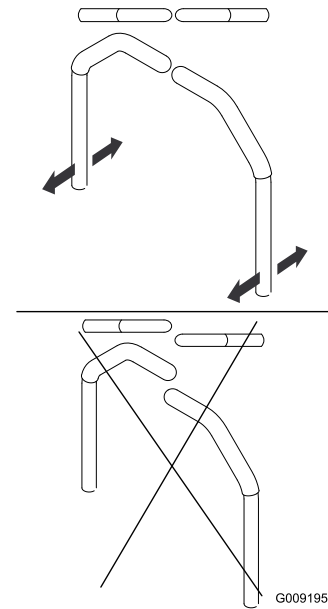

Figure 81
4. Align the levers in the front-to-rear position by bringing the levers together to the NEUTRAL position, slide them until they are aligned, and tighten the bolts (Figure 81).